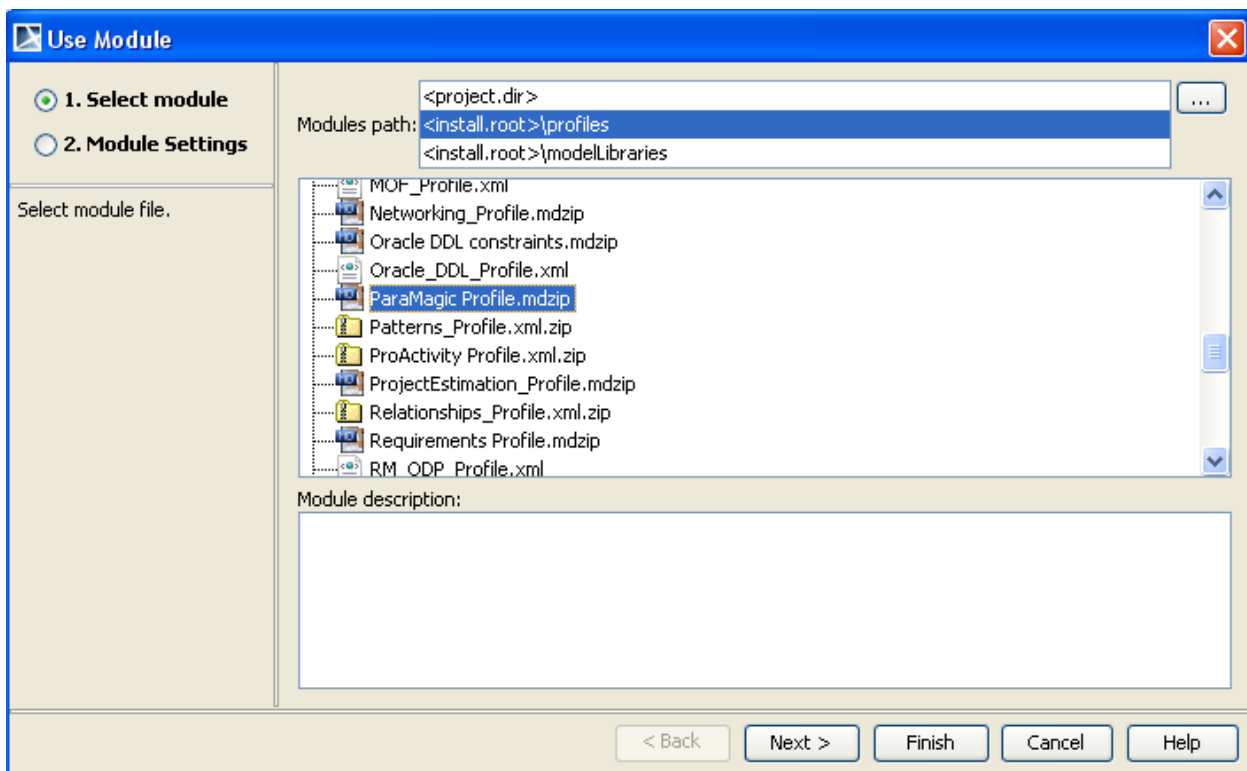

Figure 2.4 Use Module window
- a. On MagicDraw menu bar, select File→Use Module... and select as below (Figure 2.4). This loads a module containing all the ParaMagic features as part of the project.